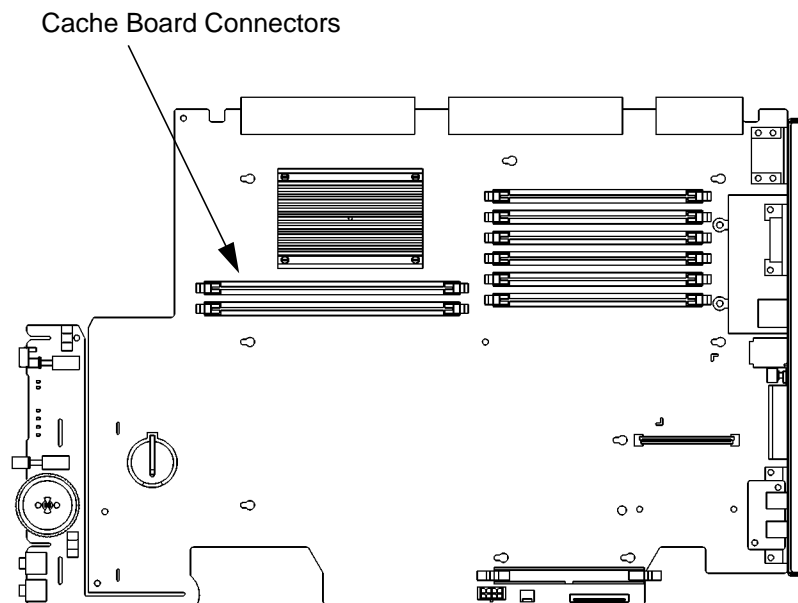

Figure 50 Cache Boards Location
- 1 Locate the cache board connectors on the CPU board, as shown in Figure 50.